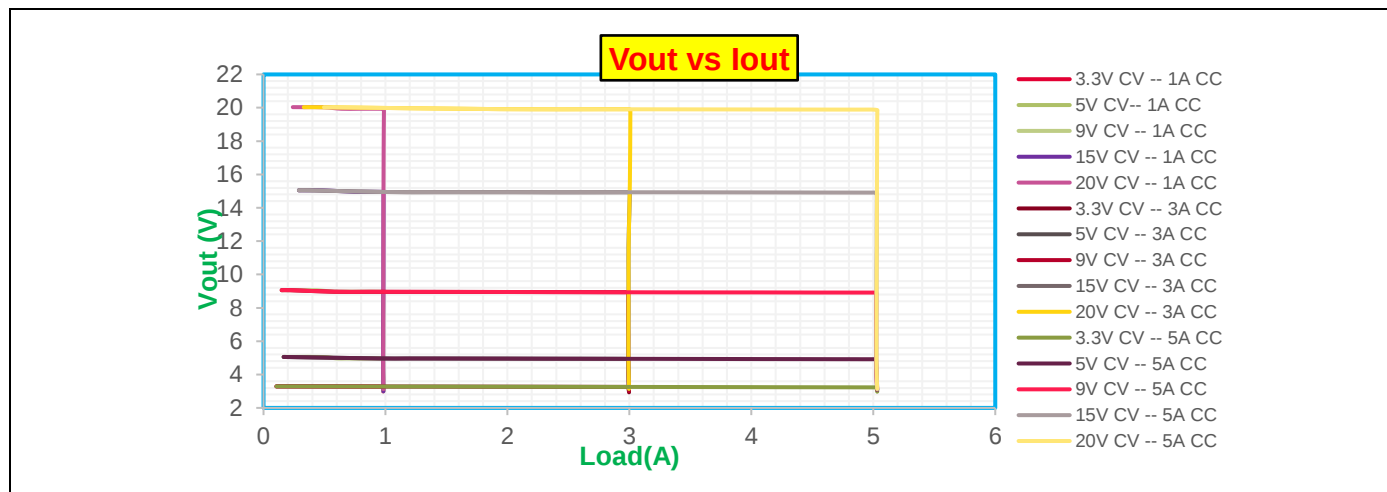

Figure 3 USB PD CV and CC performance at 115 Vac
The waveform shown in Figure 3 illustrates the constant voltage (CV) and constant current (CC) modes of performance of the 140 W USB-C PD converter. This solution attains a power factor exceeding 0.9 for the entire input voltage range at a 140 W load while surpassing 0.98 for an input voltage of 115 Vac and a 140 W load.